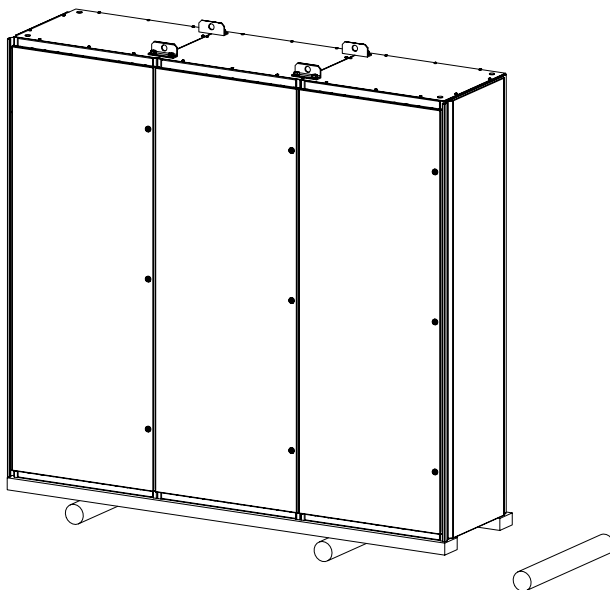

Figure 3-14 Roller transport (only for weight of transport units up to 1200 kg)
- In an emergency, with rollers (min. 3 pieces). For roller transport the wooden cross-beams must be removed (only for sections with transverse sections up to 1200 kg, see Figure 3-14).